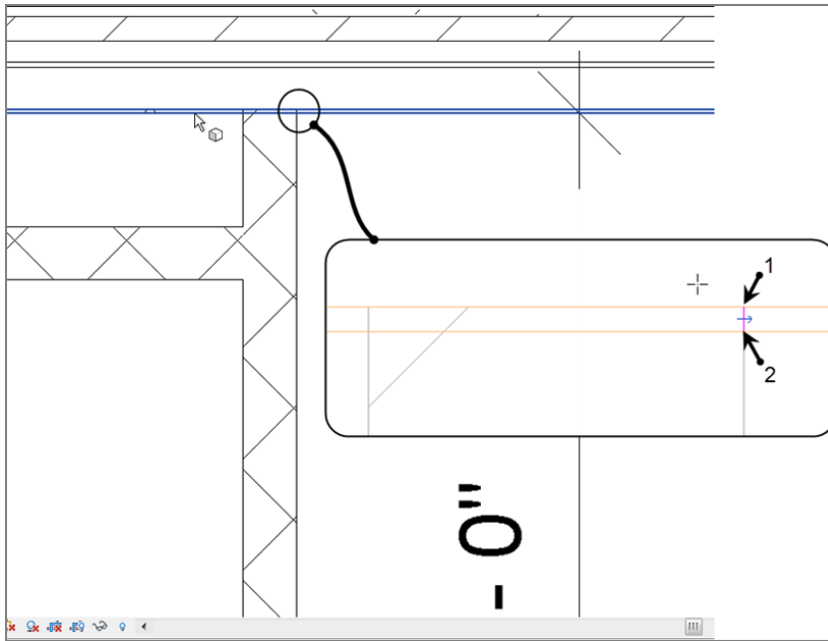

FIGURE 2.62: This line indicates where the wallboard will be cut. The blue arrow indicates the side of the material that will remain.
7. You now need to draw a very short, vertical line from the inside face of the wallboard to the outside face, as labeled 1 and 2 in Figure 2.62. Press Esc.